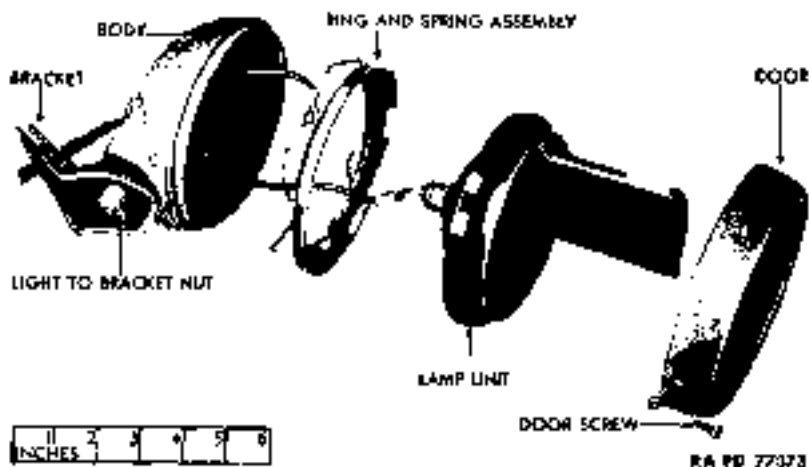

Figure 99 - Blackout Driving Light Disassembled
(1) **DESCRIPTION** (fig. 99). The blackout driving light, attached to cowl above left headlight, is used while the vehicle is being operated during blackouts. The lens is opaqued except for a small portion at the top which is covered with a shield. The lamp, reflector, lens and shield are one sealed beam lamp-unit.